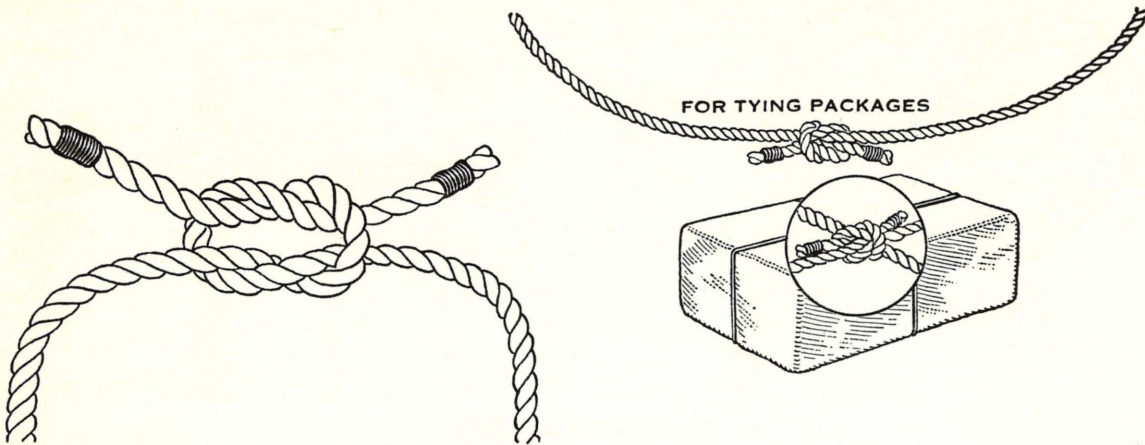

Fig. 534—The square knot
3. **The Square Knot.** This is the most commonly used, and the most useful knot of all. It is used to tie together two ends of the same size rope or cord. It is especially useful in tying packages, because it does not slip and can be untied more easily than most knots. It should not be confused with the "granny" knot, which does not hold well. Notice that the ends of the square knot come out along the same sides of the standing parts. (See Fig. 534.)